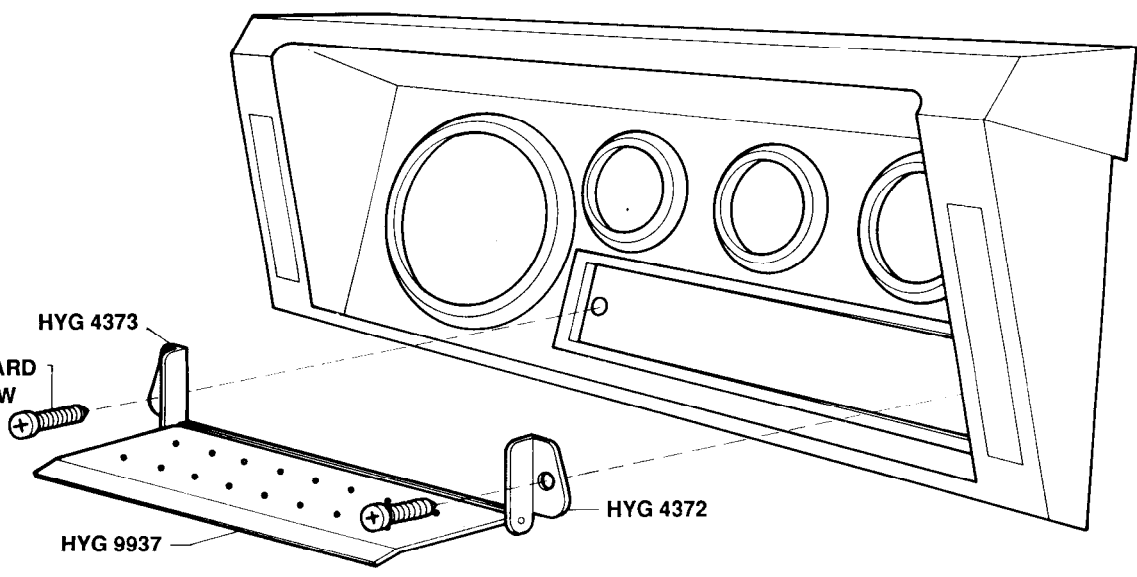

FIG 1 - INSTRUMENT BLACKOUT COVER
- b. Using the existing screws, secure the blackout cover and brackets (Items 1 from Table 1) into position as shown in Fig 1.